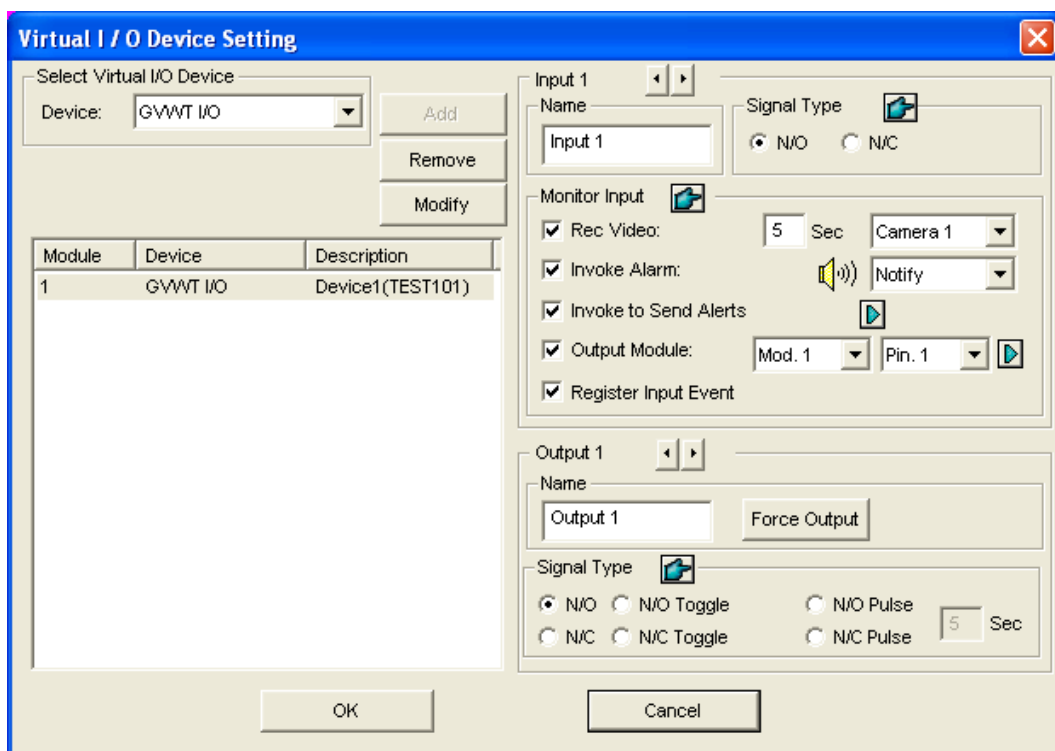

Figure 5-1
- Click **OK** to save the settings and return to the Virtual I/O Device Setting dialog box (See Figure 5-1).